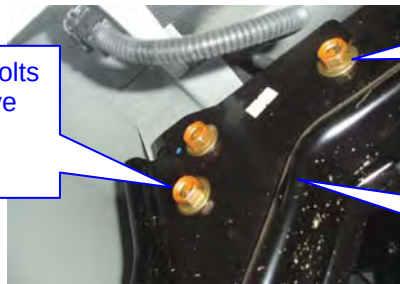

Fig 2
- c. Completely remove the two rears most M12 bolts on the side of chassis rails so that the step can be removed from the vehicle see fig 2.